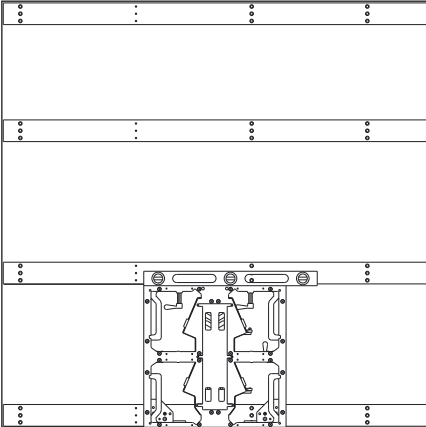

Figure 5: Install First Panel
1. Start the first panel (with the modules removed) at the middle of the bottom tube. Refer to **Figure 5**. Use a straight edge to position the panel so the bottom is flush with the bottom of the tube and does not hang below the bottom of the tube by more than 1/4" [6.35 mm]. The left and right edges of the panel should align with the dashed vertical lines created with the interference jig.